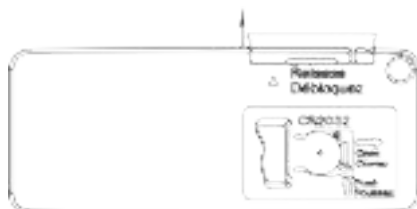

Fig. 1
2. Extract the insulated slice , and use the remote to control the effect. (Fig.1)